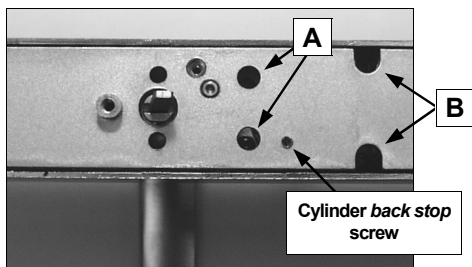

Fig. 1: Install Cylinder if not already installed at the factory
1. **Install Cylinder if not already installed at the factory.** Screws A & B (see Fig. 1) are correctly set at factory. If it is difficult to screw in the cylinder, loosen the two screws near the actuator (A) one turn. If you find the cylinder is still difficult to screw in, then loosen the other screws (B) one turn. **Do not loosen the screws all the way or it may be difficult to replace them properly!** **Note:** The trim is manufactured to use a 1-1/8" or 1/4" Alarm Lock mortise cylinder with a HW-1302 cam. If the cylinder that will be used is longer than 1 1/4", a collar must be utilized. Please see the collar information on the previous page.